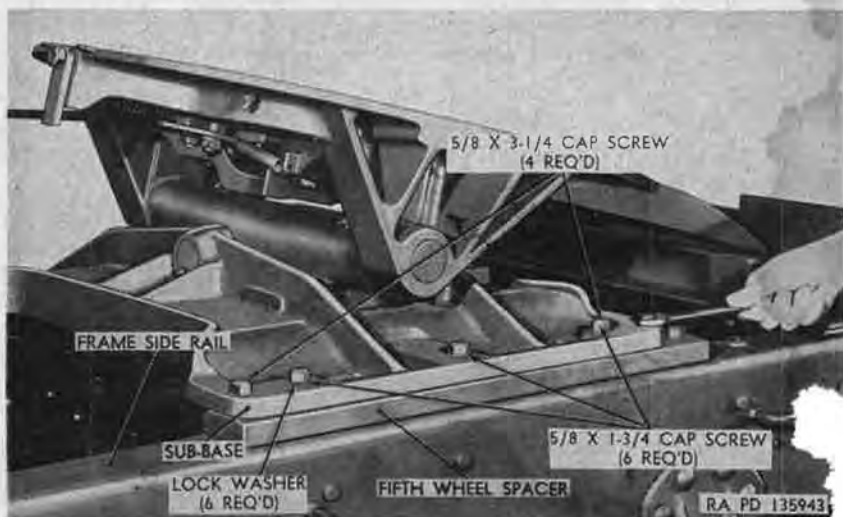
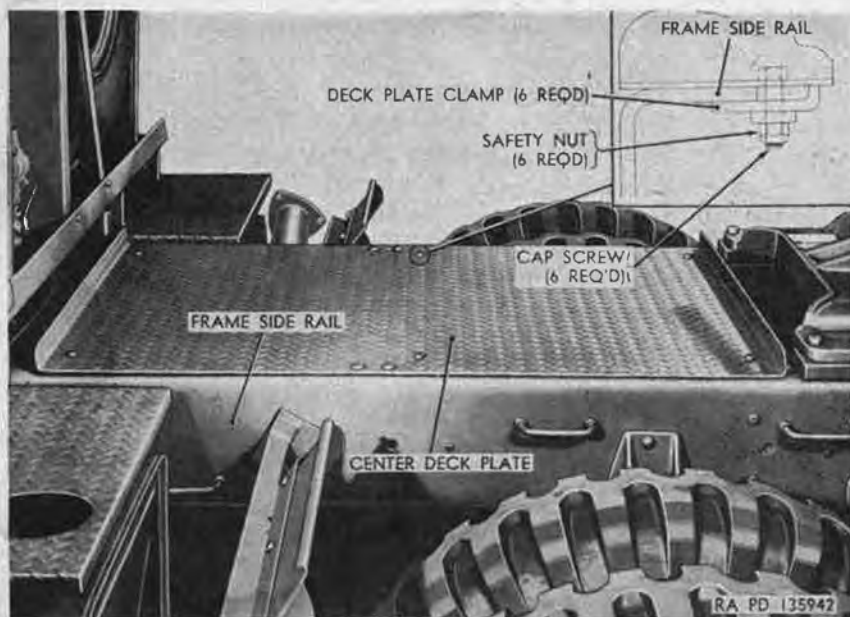

Figure 319. Left front view of fifth wheel M52.
Figure 321. Top left view of center deck plate M52.
ter deck plate (fig. 321) (M52 only). On the tractor truck M52, the approach plate and center deck plate are bolted directly to the frame left and right side rails. The fifth wheel is bolted to the side rails and fifth wheel spacers (fig. 319), which are bolted to the side rails. On the tractor wrecker truck M246, the approach plates are a part of the crane body, and the fifth wheel is bolted to both the crane-body side rails and the truck-frame side rails.
- (1) Remove six cap screws (fig. 319) and lockwashers and four cap screws and safety nuts (located on inside of frame side rails) securing fifth wheel subbase to fifth wheel spacers and frame side rails.
- (2) Using overhead hoisting equipment, remove fifth wheel from vehicle.
- (1) Using overhead hoisting equipment, lift fifth wheel into position on spacers (fig. 319) bolted to frame side rails, and align mounting screw holes in subbase and spacers.
- (2) Install six $\frac{5}{8}$ x $1\frac{3}{4}$ cap screws (fig. 319) with lockwashers in holes in subbase and spacers, and tighten. Insert four $\frac{5}{8}$ x $3\frac{1}{4}$ cap screws through holes in subbase and spacer, install four safety nuts on cap screws, and tighten.
- (1) Remove six cap screws (fig. 321), safety nuts, and deck plate clamps securing center deck plate to frame side rails.
- (2) Lift center deck plate from vehicle.
- (1) Lift center deck plate (fig. 321) into position on frame side rails, and align mounting screw holes in plate and side rails.
- (2) Insert six cap screws (fig. 321) in holes in plate and side rails, and install six safety nuts and deck plate clamps on cap screws. Tighten cap screws and nuts.